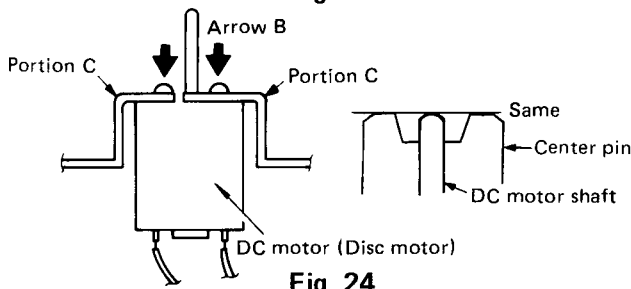

Fig. 24
- 3) When replacing the DC motor, take care not to apply excessive force in the direction of arrow B. Doing so may deform unit plate C, resulting in deteriorated eye pattern. (Fig. 24)
- 4) Press in the center pin into the DC motor shaft so that the shaft tip is aligned with the center pin tip. (Fig. 24)